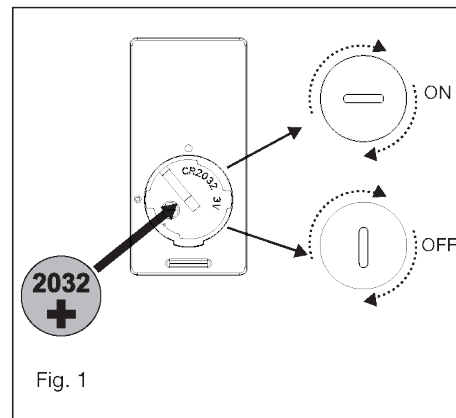

Fig. 1
- 1 Remove ball from downrod by loosening set screw in the side of the ball. Slide ball down and remove ball pin; remove ball. (Fig. 1)
- 1 Insert the receiver into the ceiling mounting bracket with the flat side of the receiver facing the ceiling. (Fig. 1) For best performance, make sure the Black Antenna, on the end of the receiver, remains extended and not tangled with any of the electrical wires.
- 1 Select a desired location. Use the wall plate to mark the location of the mounting holes. Plastic wall anchors or mounting screws are needed for this application. (Fig. 1)
Remove the panel from the transmitter and then install one 2032 battery (included). You need to use a coin to open or close the battery cover. To prevent damage to transmitter, remove the battery if not use for long periods of time (Fig. 1)